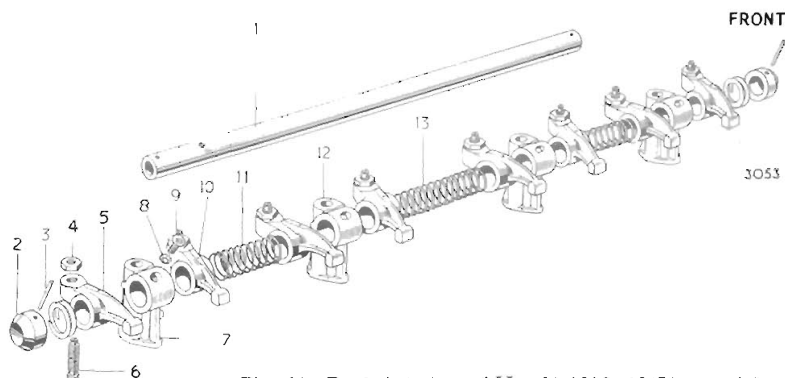

Fig. 64. Exploded view of Herald 1200, 12/50 or Spitfire rocker assembly
Lubricate and assemble the components onto the rocker shaft as shown on Fig. 64. Note that each pair of rockers are off-set and that a shouldered screw and shakeproof washer are used to locate the rear pedestal on the shaft. Slacken off the lock-nuts (4) and screw in the adjusters (6) to avoid bending the pushrods. Lower the rocker shaft assembly over the studs, simultaneously locating the rocker adjusters in the push rod cups.